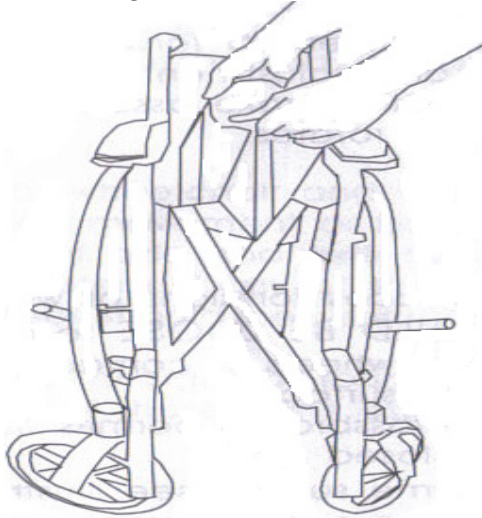

Fig. 2
3. To close the wheelchair, take the centre of the seat fabric at the front and back edges and lift (Fig. 2).